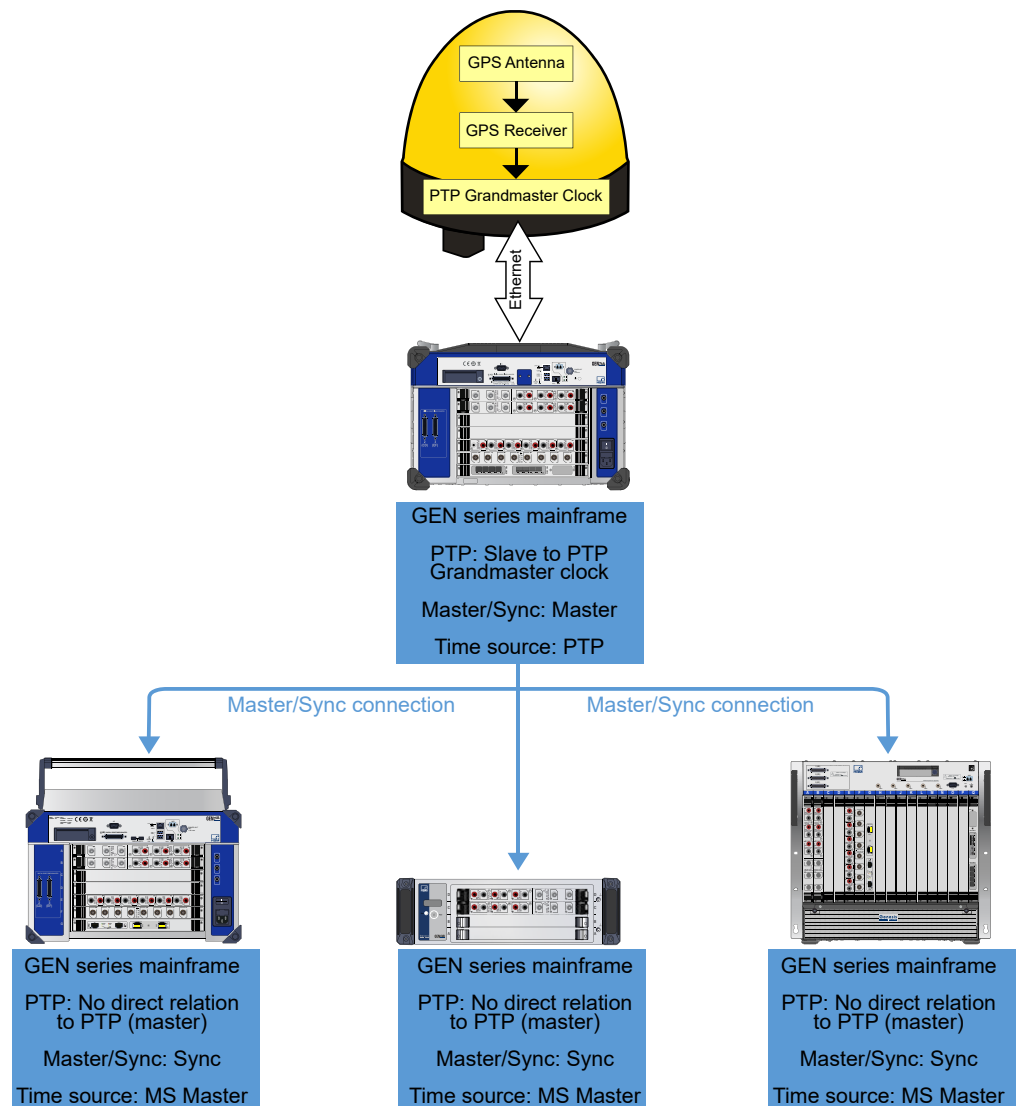

Figure 14.23: GPS Receiver with Master/Sync connected Sync mainframes
- G002B: GPS Receiver with Master/Sync connected Sync mainframes (see Figure 14.23)